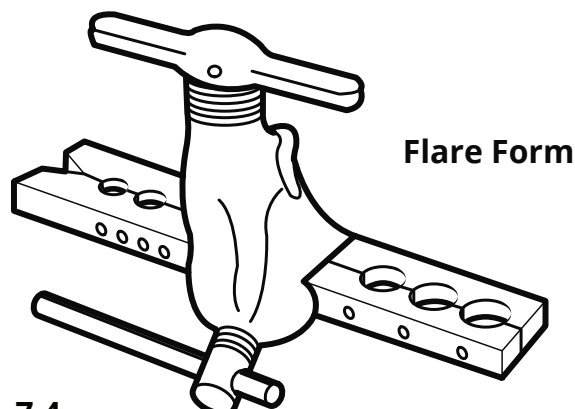

Fig. 7.4
5. Clamp the flare form on the end of the pipe. The end of the pipe must extend beyond the edge of the flare form in accordance with the dimensions in the table below. **Please refer to Figs. 7.4 - 7.5.**